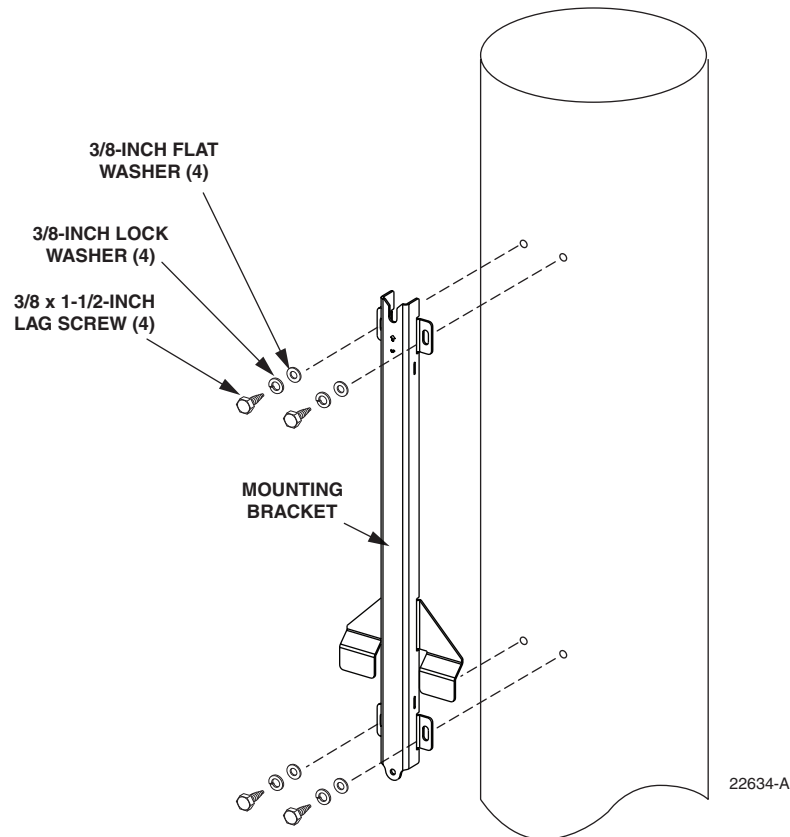

Figure 7. Secure Standard Mounting Bracket to a Wooden Pole
1. Hold the enclosure mounting bracket in position for installation on the wooden pole as shown in Figure 7. The end with the V-notch should be at the top.